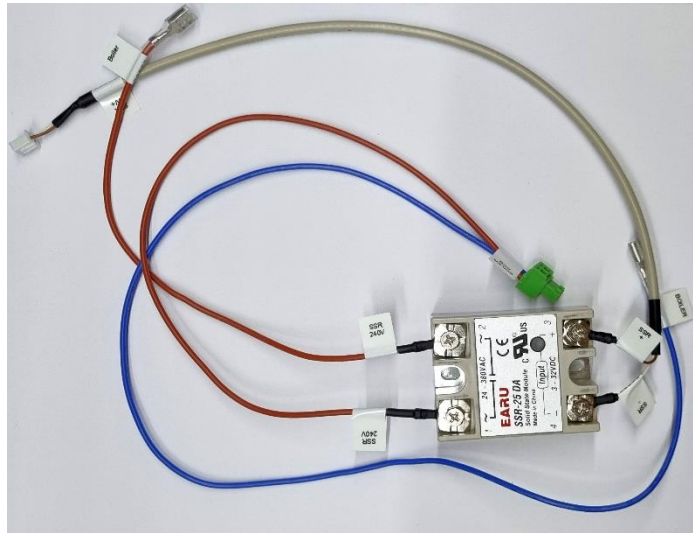

Fig. 7.1
- Connect the SSR -5V+ cable to the relay to 3-32VDC ports , brown to positive (SSR+) and white to negative (SSR-), then connect the remaining SSR 240V connectors to AC side (fig. 7.1)